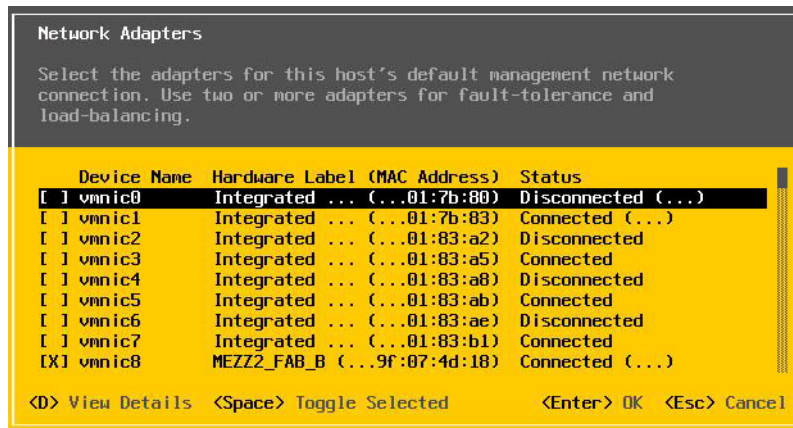

Figure 14-26. ESXi Management Network Selection
9. On 57800 and 57810 boards, the management network is not vmnic0. After booting, open the GUI console and view the Configure Management Network, and then the Network Adapters window (Figure 14-26) to select the NIC to be used as the management network device.